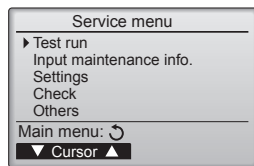

Fig. 7-3
- ③ Select "Test run" with the or button, and press the button. (Fig. 7-3)